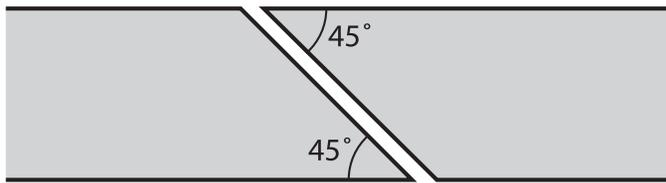

figure 1
- a. Measure between corners and/or end trim pieces. Cut baseboard to length. If more than one board is required, scarf or miter joints are recommended for optimum fit. Cut the adjoining base rail pieces at opposite 45° angles to join them together (**see figure 1**).